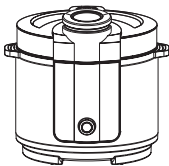
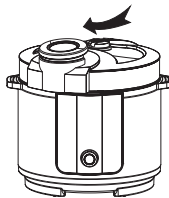
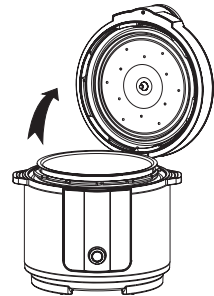

Fig. 1
Fig. 2
Fig. 3
If the lid is closed (fig. 1), turn the lid by the handle ② clockwise (fig. 2) and lift the lid in vertical position (fig. 3).